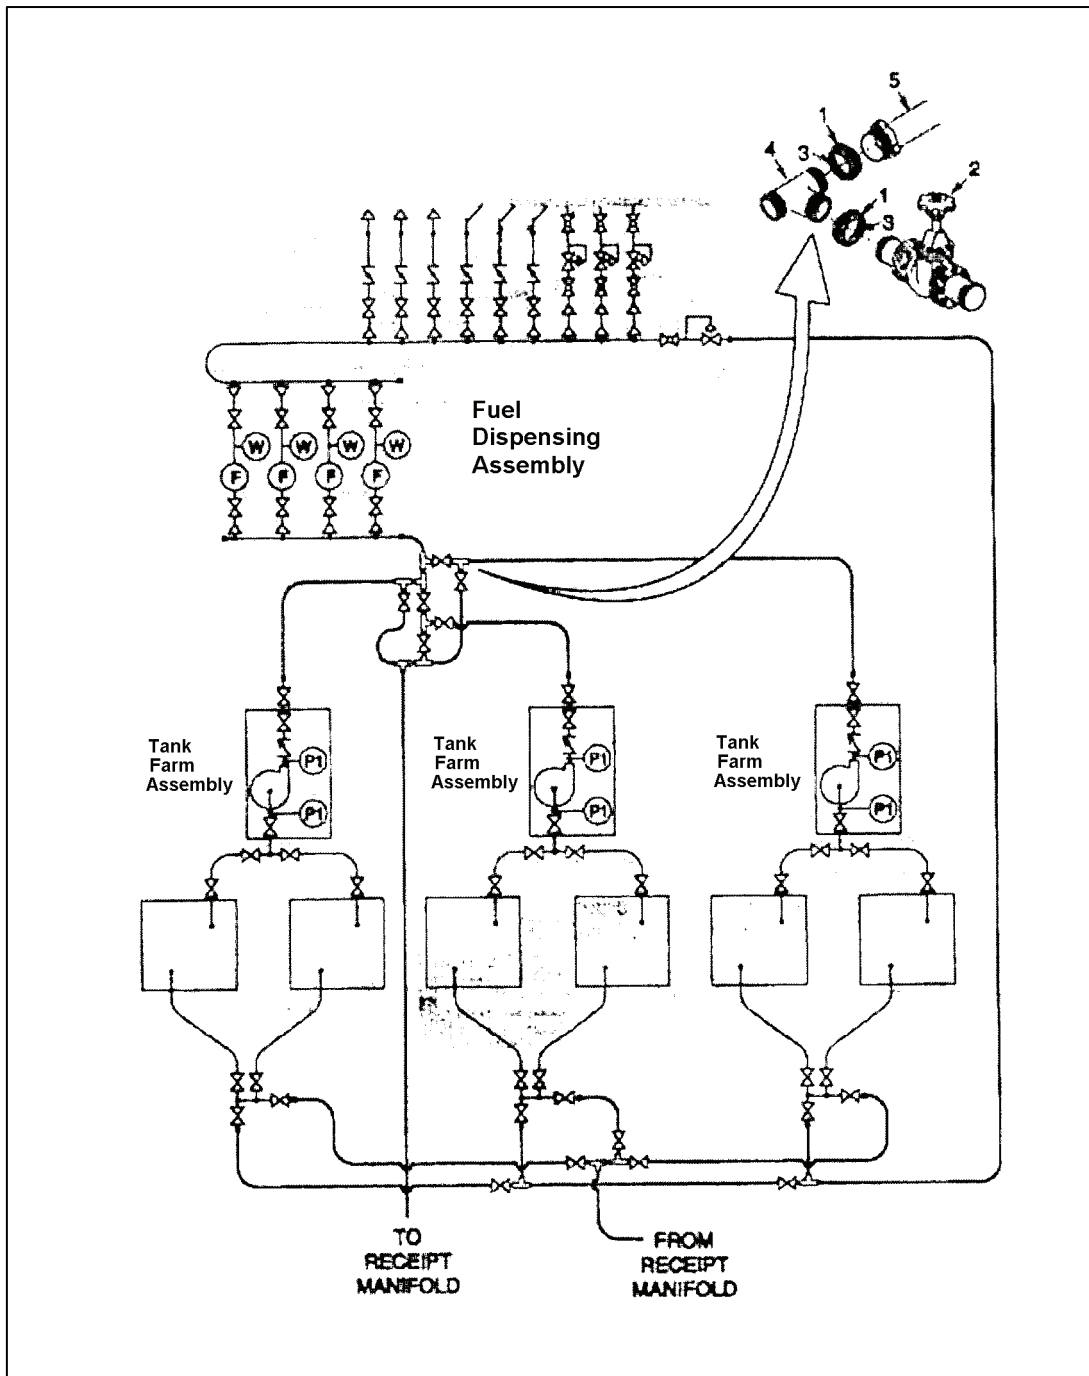

Figure 6
14. Connecting transfer hose line assembly (Figure 6).